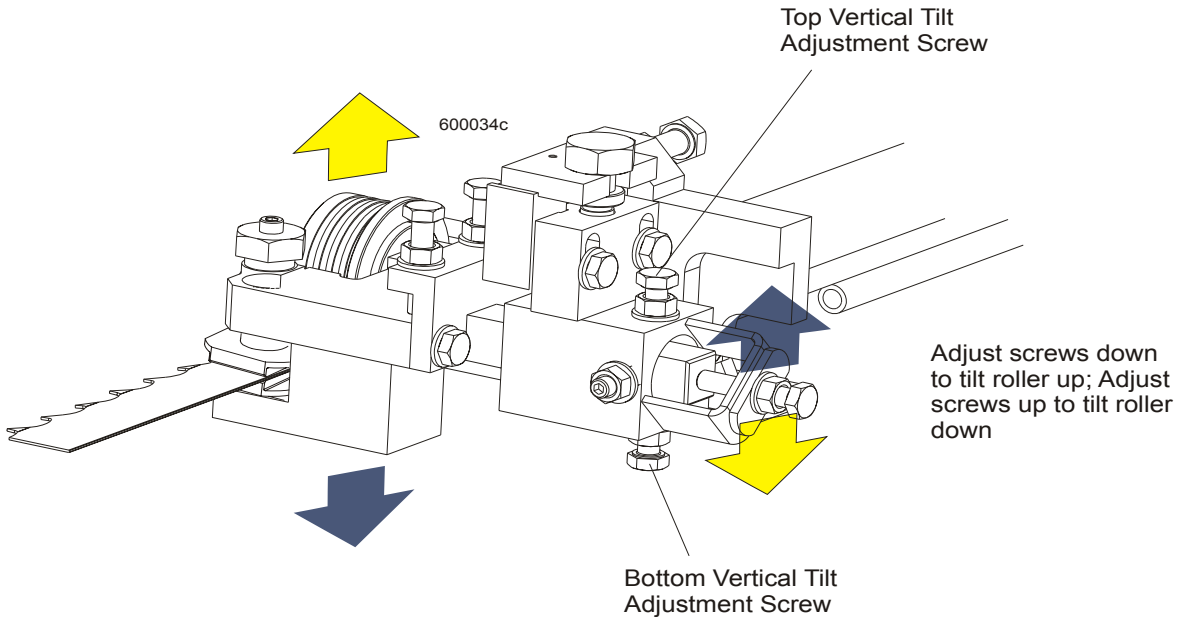

FIG. 5-9
**See Figure 5-9.** Loosen the jam nuts on the top and bottom vertical tilt adjustment screws. To tilt the roller up, loosen the bottom screw and tighten top screw. To tilt the roller down, loosen the top screw and tighten the bottom screw. Tighten the jam nuts and